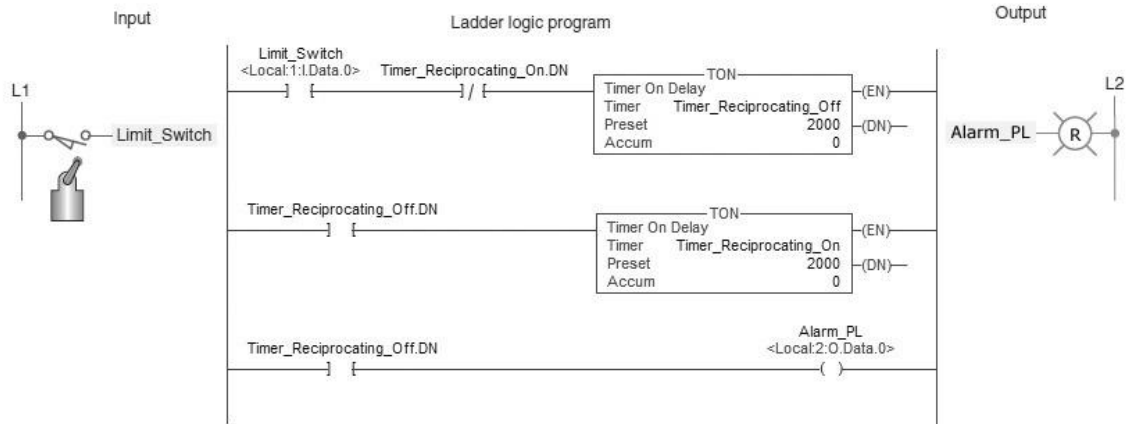

Figure 15-34 Flashing pilot light program for assignment 10.
10) The flashing pilot light program of Figure 15-34 is described in the text. Prepare an I/O connection diagram and ladder logic program that will simulate its operation. Utilize field devices found on your ControlLogix installation. Enter the program into the controller, and monitor its operation.